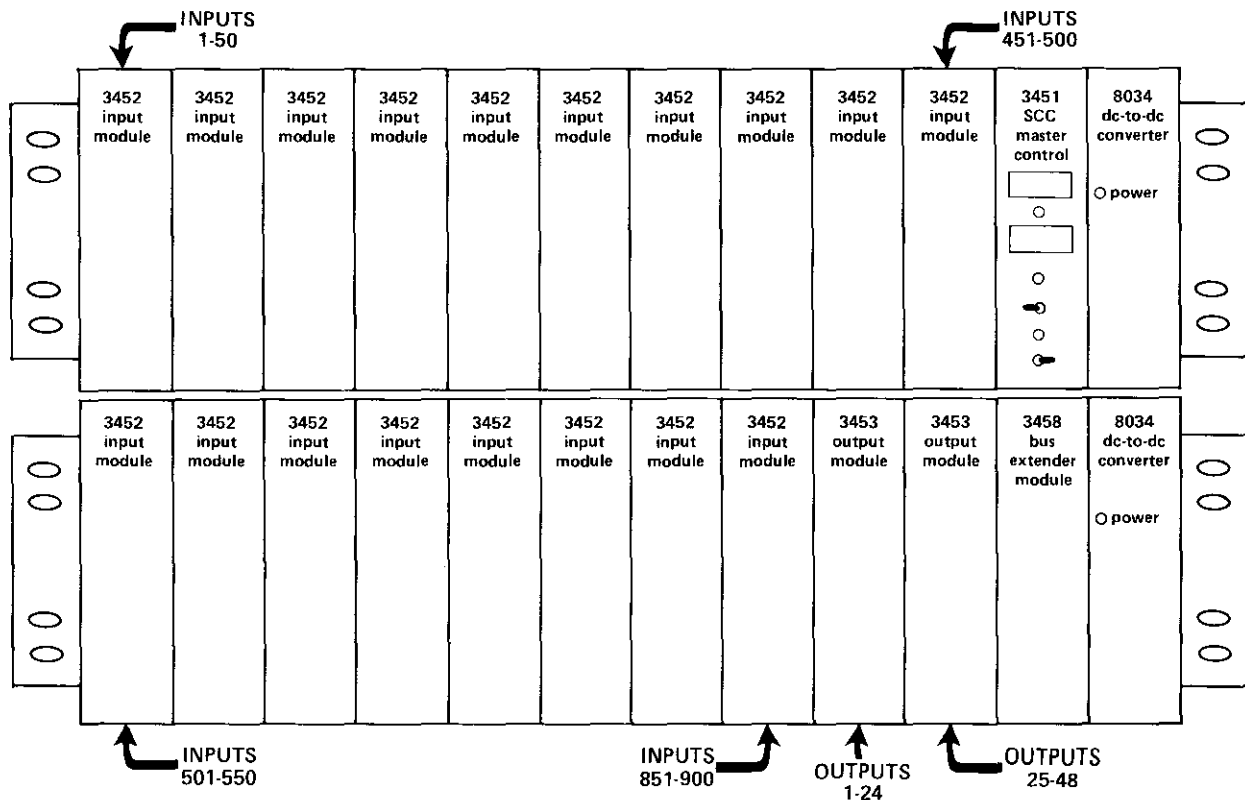

figure 3. Typical 345 SCC System (900 input lines, 48 output lines)
2.01 The 345 SCC System is modular in design, and its modules mount in the prewired, connectorized 345A Mounting Assembly. This assembly houses up to 12 modules and is completely self-contained. Larger systems consist of multiple mounting assemblies interconnected via ribbon cables and backplane connectors. Also, one bus extender module, which replaces the master control module in each added shelf, must be included with each additional shelf. Figure 3 shows a front view of a typical two-shelf 345 System.